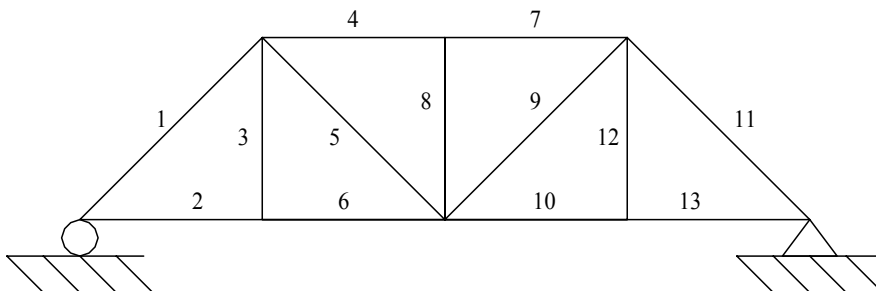

Figure 26. A Truss Structural System
- The truss in Figure 26 has 13 members.